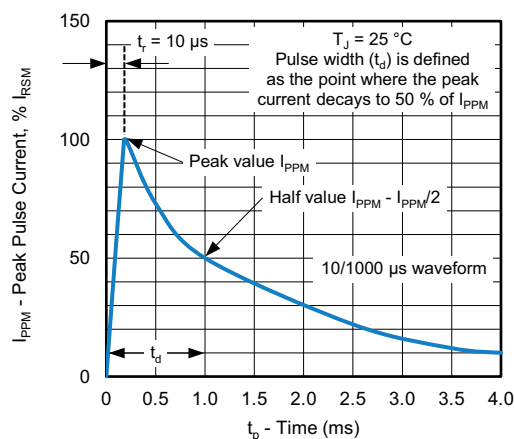
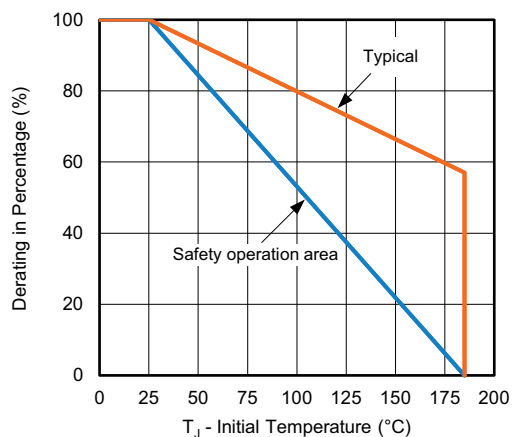

Fig. 3 - Pulse Waveform
Fig. 2 - Pulse Power or Current vs. Initial Junction Temperature
(1) Non-repetitive current pulse, per fig. 3 and derated above $T_A = 25^\circ\text{C}$ per fig. 2.
(2) Power dissipation mounted on infinite heat sink
(3) Power dissipation mounted on minimum recommended pad layout